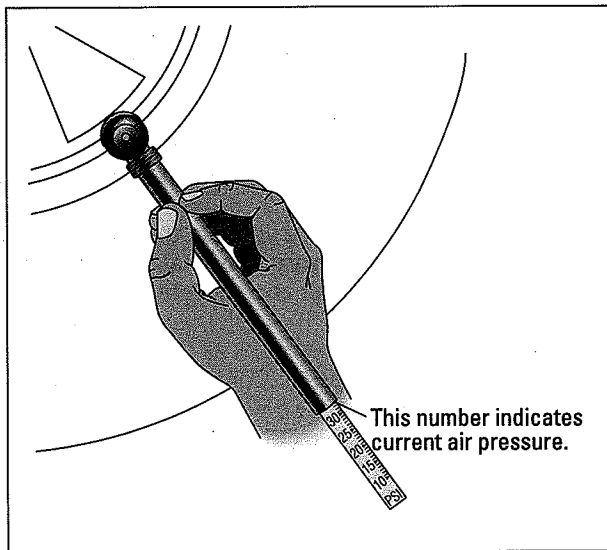

Figure 19-2:
Figure 19-2 shows you what a tire gauge looks like. I show you how to use one a little later in this section.
- 4. Place the open, rounded end of the tire gauge against the valve so that the little pin in the gauge contacts the pin in the valve (see Figure 19-2).**
The last number is the amount of air pressure in your tire, as shown in Figure 19-2. Does the gauge indicate the proper amount of pressure recommended on the decal?